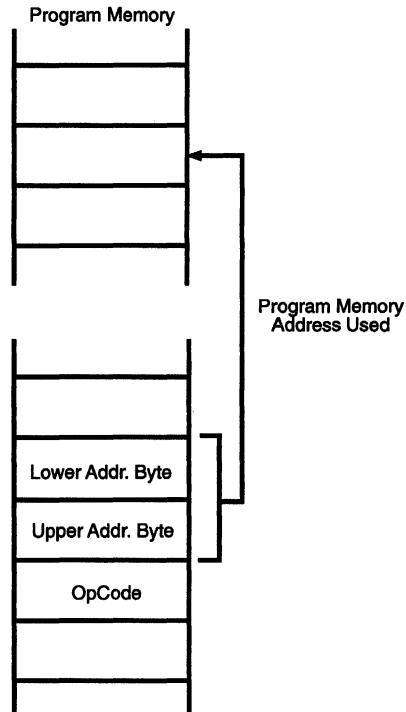

Figure 11-6. Direct Addressing
11.5 Z8 DIRECT ADDRESSING (DA)
The Direct Addressing mode, as shown in Figure 11-6, specifies the address of the next instruction to be executed. Only the Conditional Jump (JP) and Call (CALL) instructions use this addressing mode.